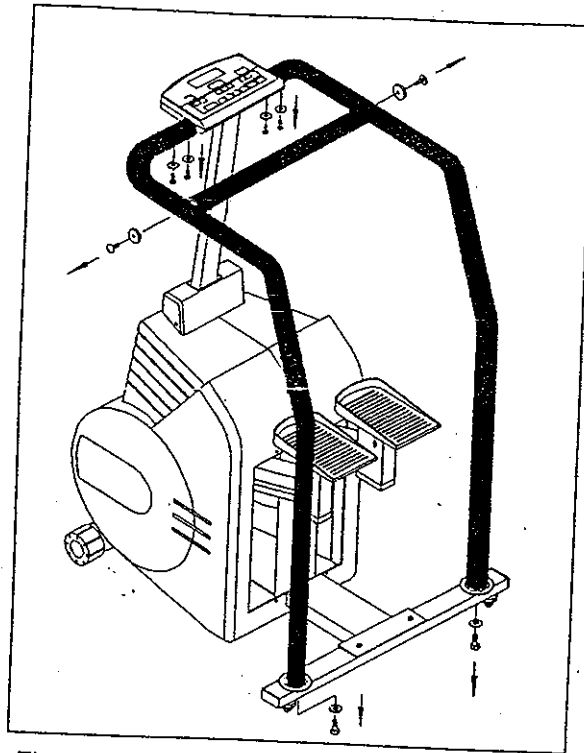

Fig.1
1. Remove all the screws securing handlebars and rear base (see Fig. 1).